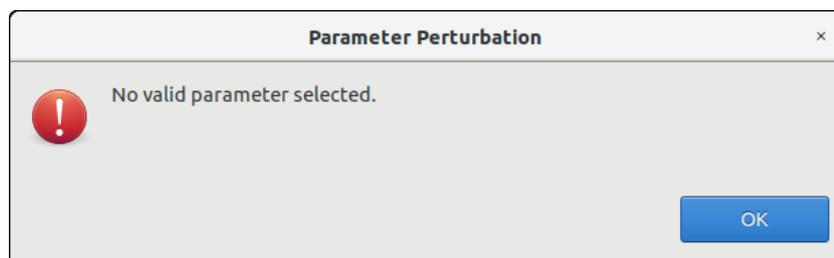

Figure 4-84: No valid parameters selected
1. Select from Simulation Creation/Edition interface the desired INTEGER/FLOAT parameters. The user may select multiple parameters using the Ctrl key. Global configuration parameters cannot be perturbed. If no valid parameters are selected, the message in Figure 4-84 will appear.